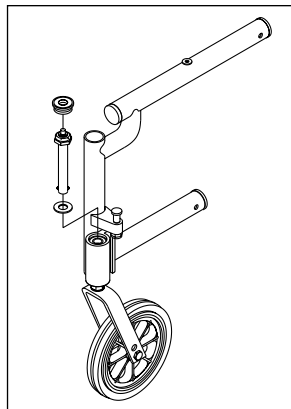

Figure 29
T. QUICK-RELEASE CASTER STEMS (OPTIONAL)**1. Installation (Fig. 29)**